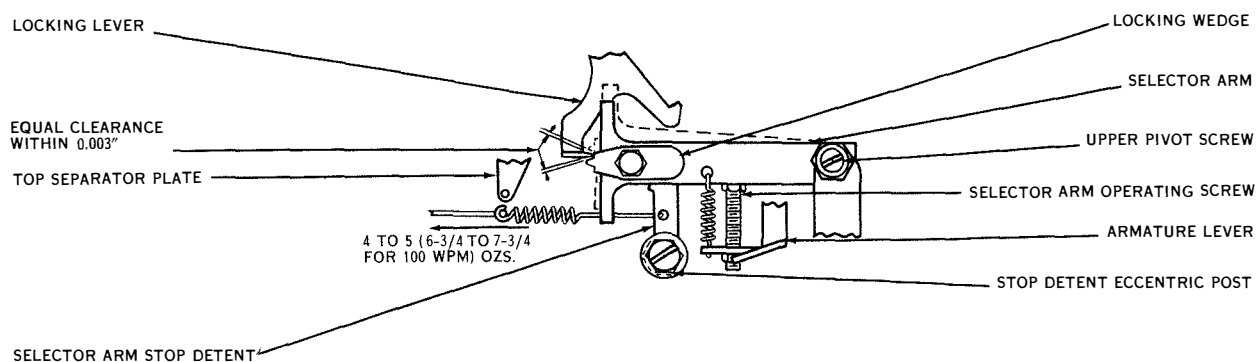

Figure 7-30. Selector Arm Stop Detent Eccentric and Spring Tension
(13) SELECTOR ARM STOP DETENT (See figure 7-30).—The clearance between the sides of the locking wedge and the locking lever should be equal within 0.003 inch when the selector arm is placed in its marking and spacing positions. To check, rotate the main shaft until the locking lever is on the low part of its cam. Move the selector arm first to its marking position and then to its spacing position and check the clearance. To adjust, position the selector arm stop detent eccentric post. Tighten the mounting screw while holding the post in position.
(14) SELECTOR ARM STOP DETENT SPRING TENSION. (See figure 7-30).—A tension of 4 to 5 ounces ($6\frac{3}{4}$ to $7\frac{3}{4}$ ounces for 100-wpm spring) should be required to pull the stop detent spring to its position length. To check, unhook the spring from the top separator plate and hook an eight-ounce scale in the spring eye. Pull in line with the spring and note the tension when the spring reaches its position length.